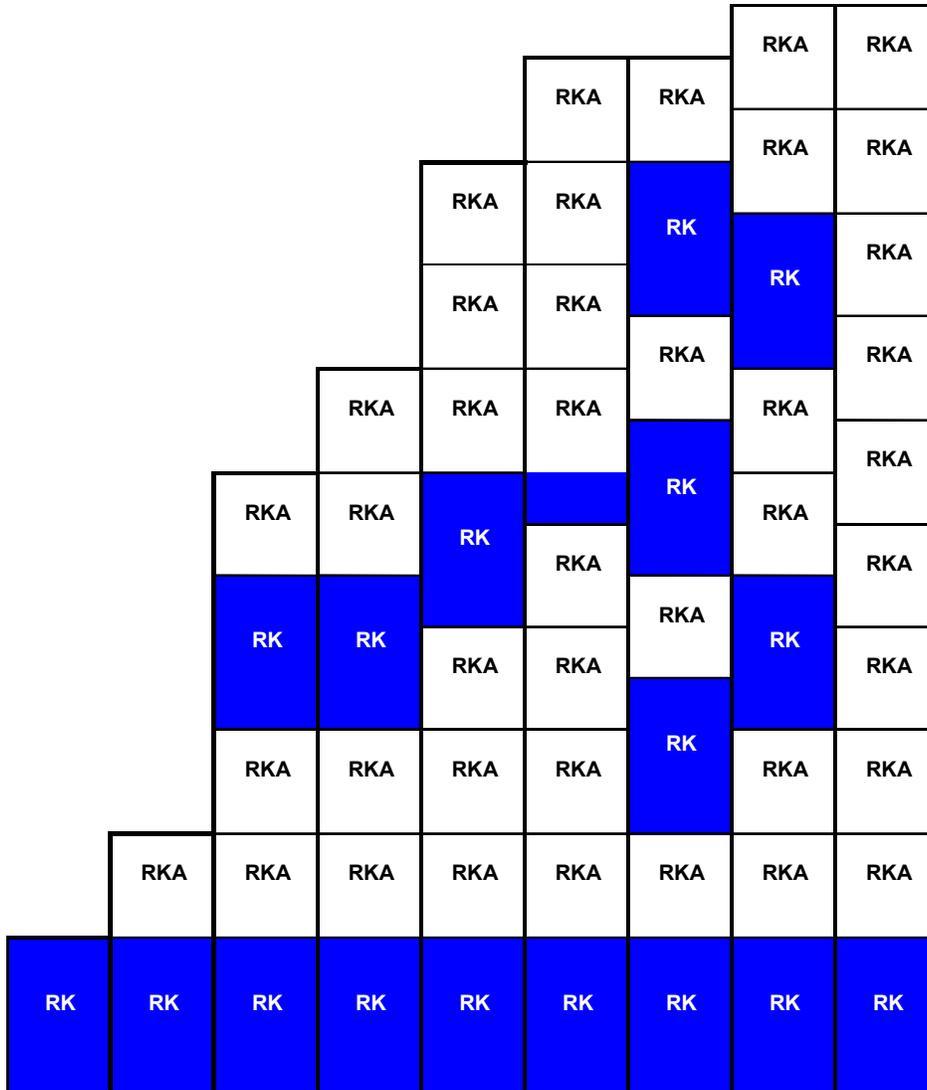

Figure 6.2 Balanced RK-to-RKA Ratio – Suggested Placement of 9200 Components
- When mounting more than one Thunder 9200™ subsystem in a rack, it is important to spread the RK-to-RKA ratio evenly (for example, 1:1 for all combinations, or 1:2 for all combinations, or 1:3 for all combinations, etc.). Avoid a top-heavy installation. Figure 6.2 shows an example of a balanced RK-to-RKA ratio.